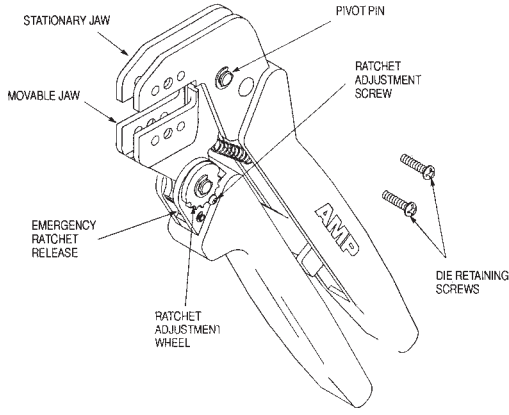

Figure 1
- Added plastic bushing, brass tube, and step-down ferrule to Figure 1.
**2. DESCRIPTION (Figure 1)**